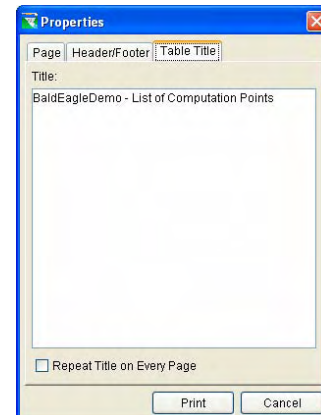

Figure 2.28 Printing Properties, Table Title Tab
- The **Table Title** tab (Figure 2.28) allows you to change the default title of the report, and to determine whether you want the report title repeated on subsequent pages.